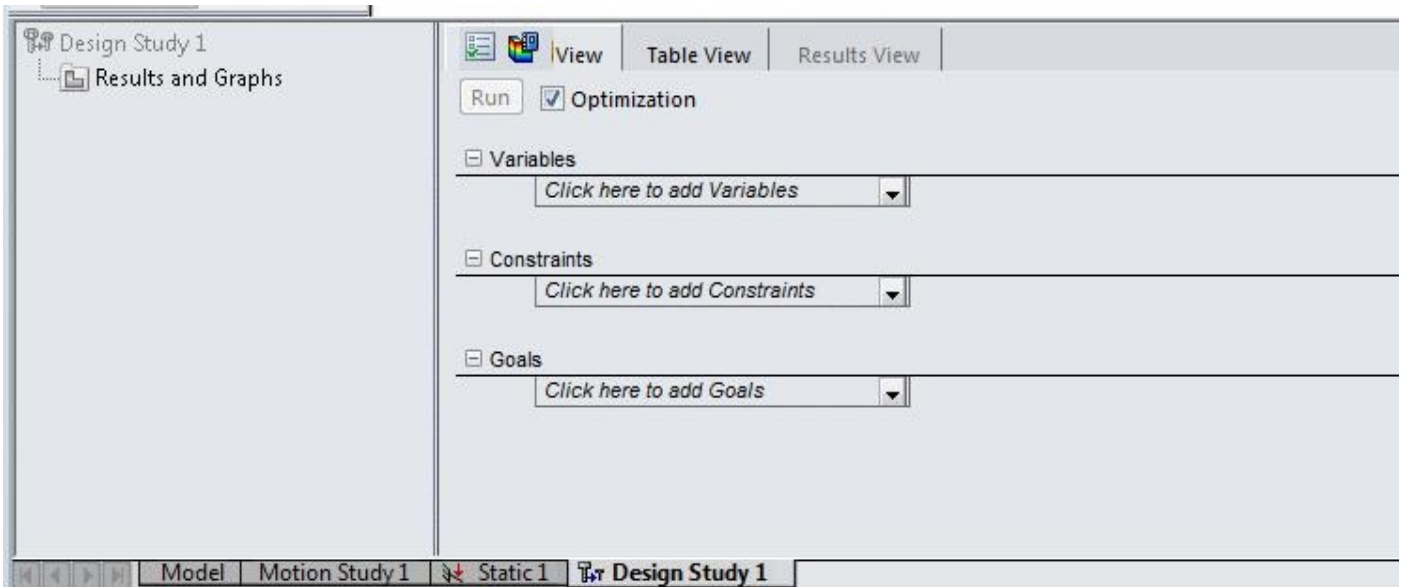

Figure-13. Design study pane
- The **Design Study** pane will be displayed; refer to Figure-13.